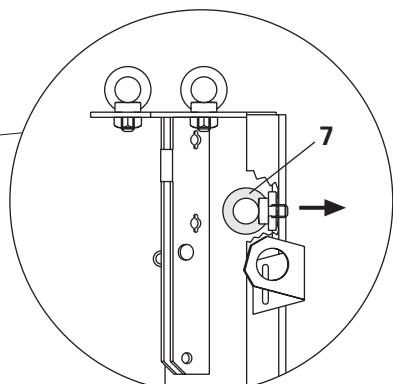

Fig. 25c
3. Use the releasing bolt **7** to force the two halves of the column apart. Fig. 25c